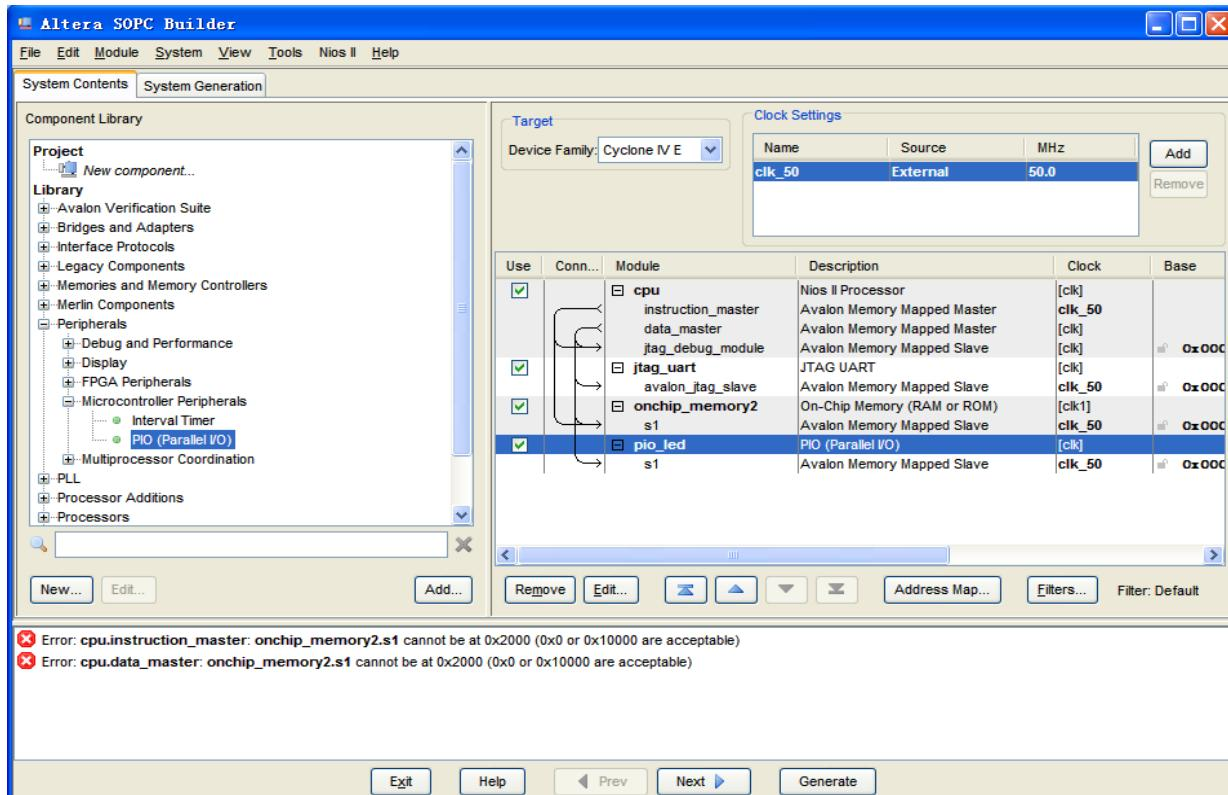

Figure 7-33 Rename PIO
21. Rename pio_0 to pio_led as shown in Figure 7-33.